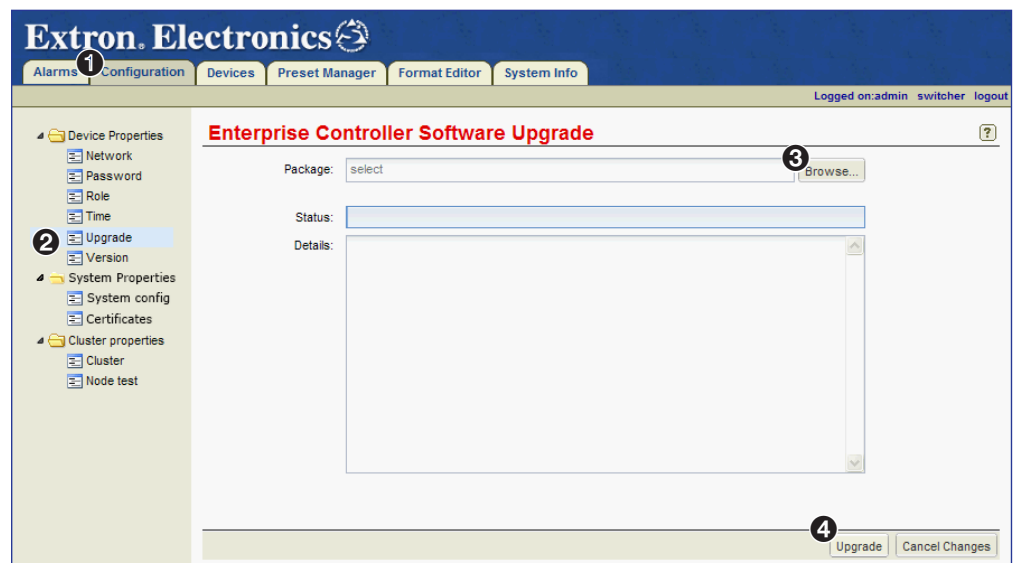

Figure 179. Configuration Page — Primary Controller Configuration Page
2. Click the **Configuration** tab (see figure 179, ❶).
3. Click the **Upgrade** link in the left panel (see figure 179, ② on the previous page).
4. Click **Browse** (③), and use the file browser to navigate to the firmware file location.
6. Click **Upgrade**, (④).